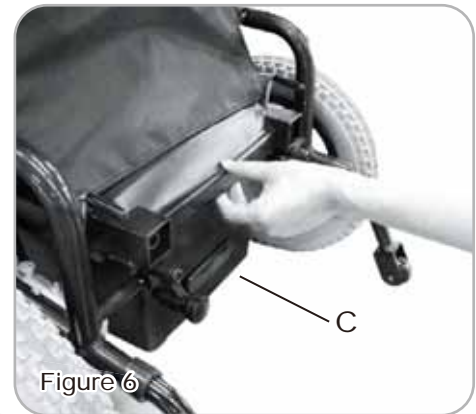

Figure 6
Remove the Battery (C) by sliding along the slider.(See Fig. 6)